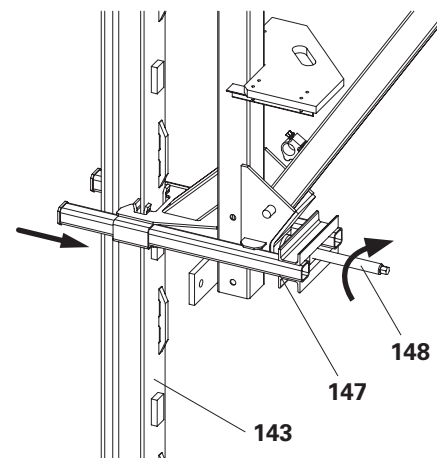

Fig. C6.07
- Danger of collision: The slide (147) must be retracted when climbing the climbing unit so that climbing past the climbing shoes is collision-free. The climbing unit is supported on the Climbing Rail ACS during the climbing process.
- The spacer (144) must support the Climbing Rail ACS when climbing the climbing rail otherwise there is a risk that the Climbing Rail ACS will be overloaded.
3. Turn the pressure point spindle (148) in clockwise direction until the Slide ACS (147) protrudes approx. 1 cm from the guide. (Fig. C6.07)